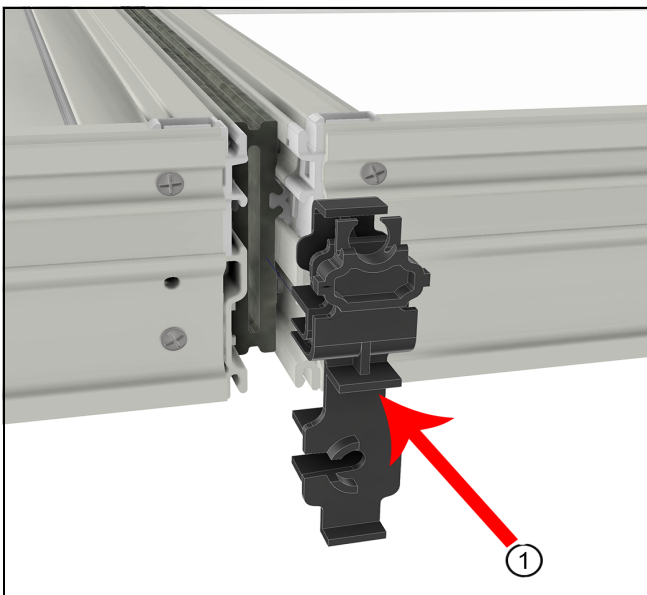

Figure 4 Line up mull plug with grooves in frame
2. On all mull ends: Insert the mull plugs with the injection hole oriented toward the exterior. See Figure 4.